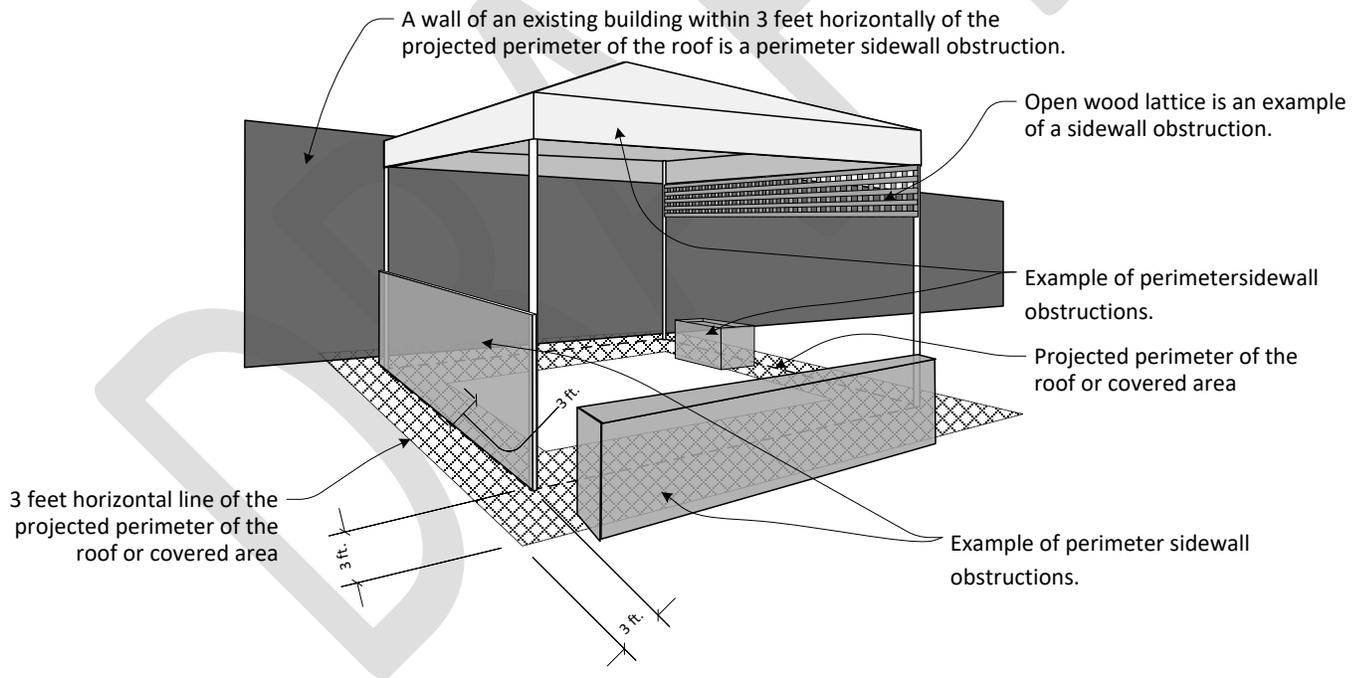

Figure 1
- Outdoor tent or canopy structures open to the public must have at least 50% of the sides open to allow airflow (see pages 5 & 6 and Figures 1 & 2). Only one full side of the roofed or covered area may be fully obstructed by a sidewall obstruction.
- ❑ Not less than 50% of the *Combined Area of All Sides* (in square feet) must be open to the outdoors for air circulation. In addition, not less than three (3) sides of the roofed or covered area must have openings of 3 feet in height for the entire width of the side.
- ❑ Only one complete side of the roofed or covered area may be fully obstructed by a perimeter sidewall obstruction. A “**perimeter sidewall obstruction**” is any vertical obstruction, including, but not limited to, solid vertical materials, fabrics, tarps, partitions, tent sidewalls, building walls, fences, planters, railings, water walls and similar obstructing vertical elements located within 3 feet horizontally of the projected perimeter of the roof or covered area (see Figure 1 below for examples of perimeter sidewall obstructions).